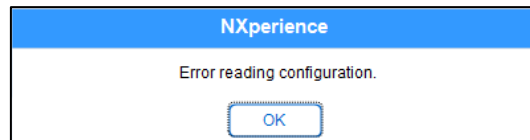

Fig. 65 – Error reading configuration
- e. If the **NXperience** shows an error while reading the configuration, as shown in Fig. 65, and the device display is off, try the procedure described in the following step.